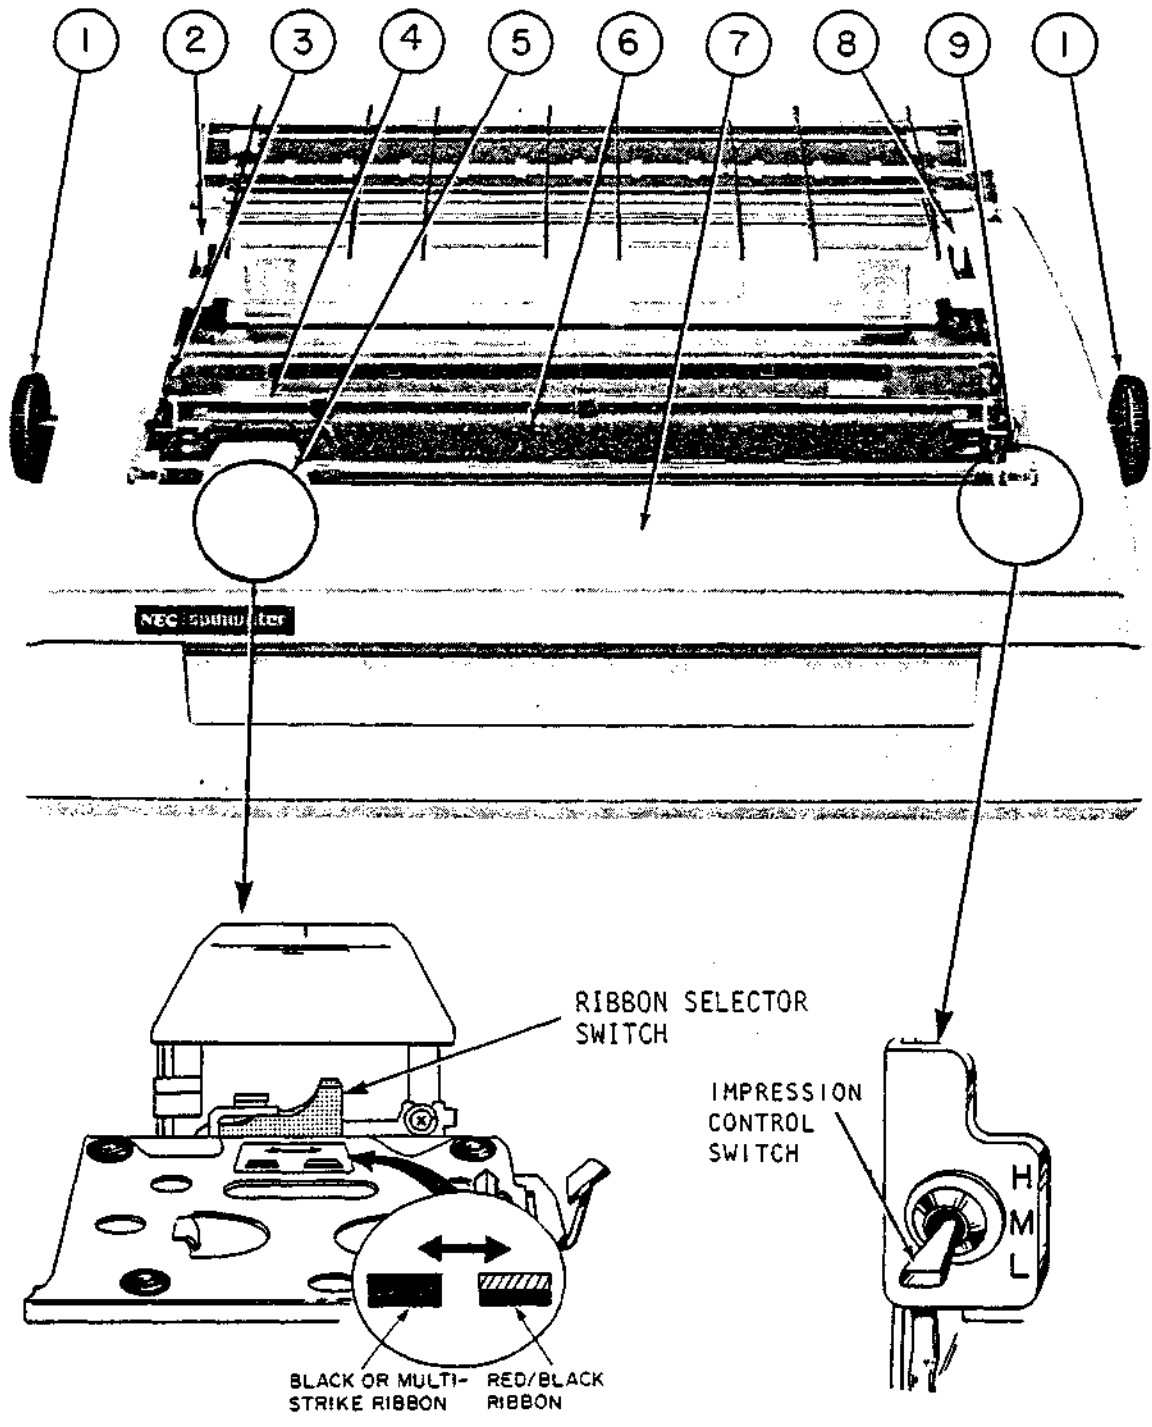

Figure 2-1 Printer Controls
Figure 2-1 illustrates the printer controls you will be using. The numbers in the following paragraphs correspond to the numbers in the figure.
- (1) Platen knobs. These allow the platen to be rotated manually to insert paper and position it properly. The right knob provides variable platen action; when you push the knob in, the platen rolls freely in either direction. You can change the position of the writing line by using this variable platen function.
- (2) Copy control lever. This lever moves the platen forward or backward to compensate for different form thicknesses (number of carbons). Place it all the way forward for a single copy, and all the way rearward for an original and seven carbon copies. Intermediate positions provide for form thicknesses between these two extremes. When printing on a form of several copies with this lever moved toward the rear, you may have to increase the print hammer intensity for optimum print quality by changing the impression control switch (see Figure 2-1, 9).
- (3) & (4) Pressure bail levers and pressure bail. The pressure bail holds the paper against the platen for optimum print quality and quietness. To insert paper, pull the bail forward, away from the platen, by moving one of the levers. When using a pin-feed platen or a forms-tractor assembly, move the pressure bail forward away from the platen. The pin-feed paper clamps or the forms-tractor assembly hold the paper in the optimum position for proper operation.
- (5) Ribbon Selector Switch. The ribbon selector switch is located under the top cover under the ribbon cartridge. Place the switch to the left for multi-strike ribbons and to the right for red/black fabric ribbons. The switch can be used in either position for the all-black fabric ribbon.